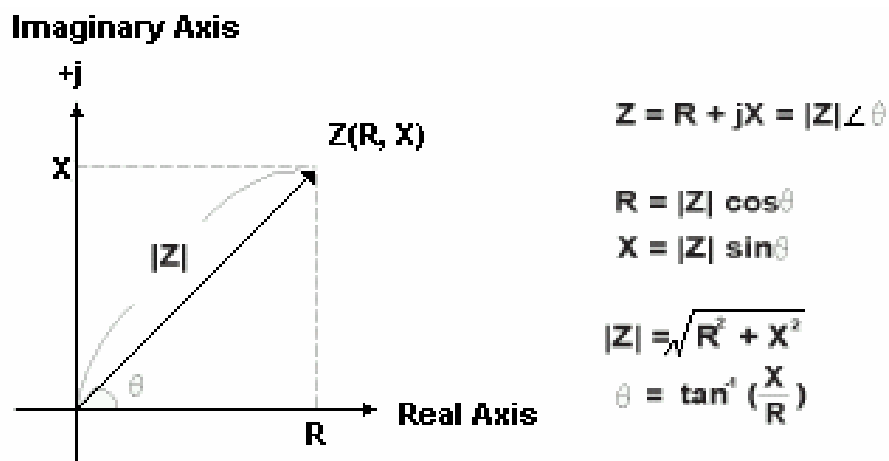

Figure- 2. Impedance
Impedance is an important parameter used to characterize electronic circuits, components, and the materials used to make components. Impedance (Z) is generally defined as the total opposition a device or circuit offers to the flow of an alternating current (AC) at a given frequency, and is represented as a complex quantity, which is graphically shown on a vector plane. An impedance vector consists of a real part (resistance, R) and an imaginary part (reactance, X) as shown in Figure-2.